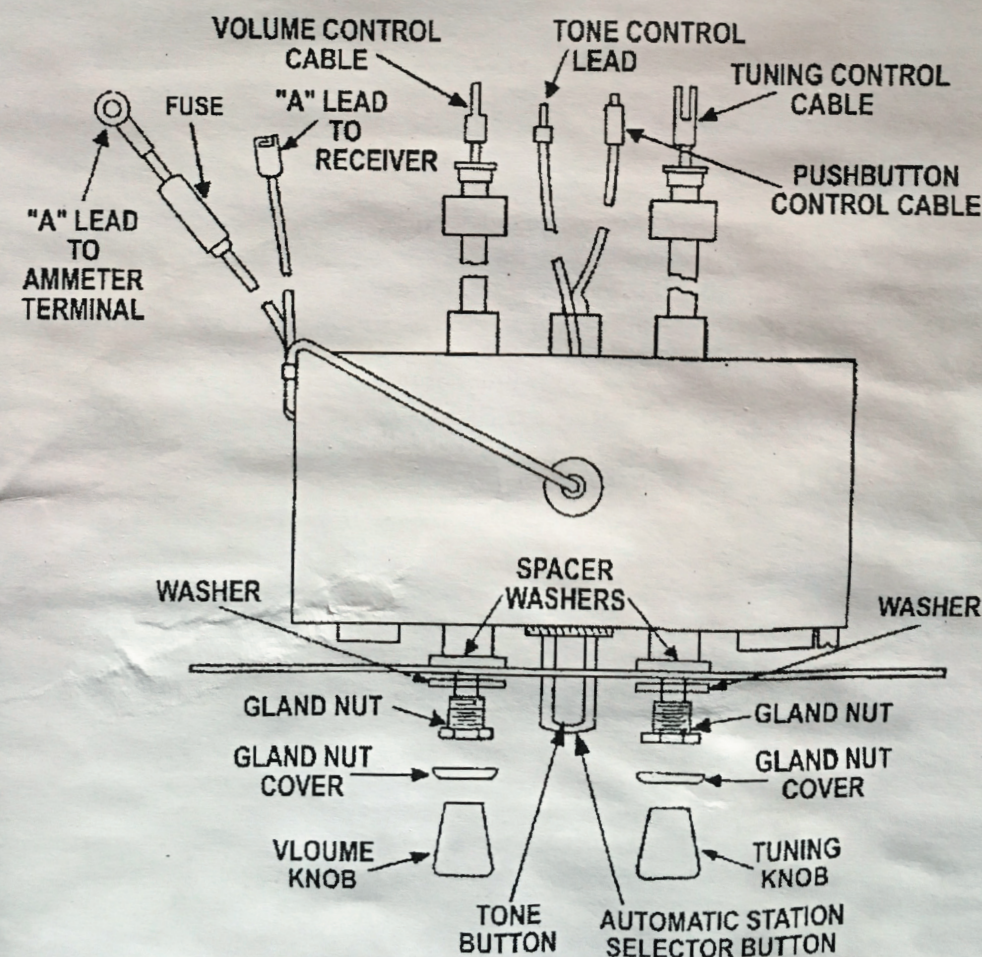
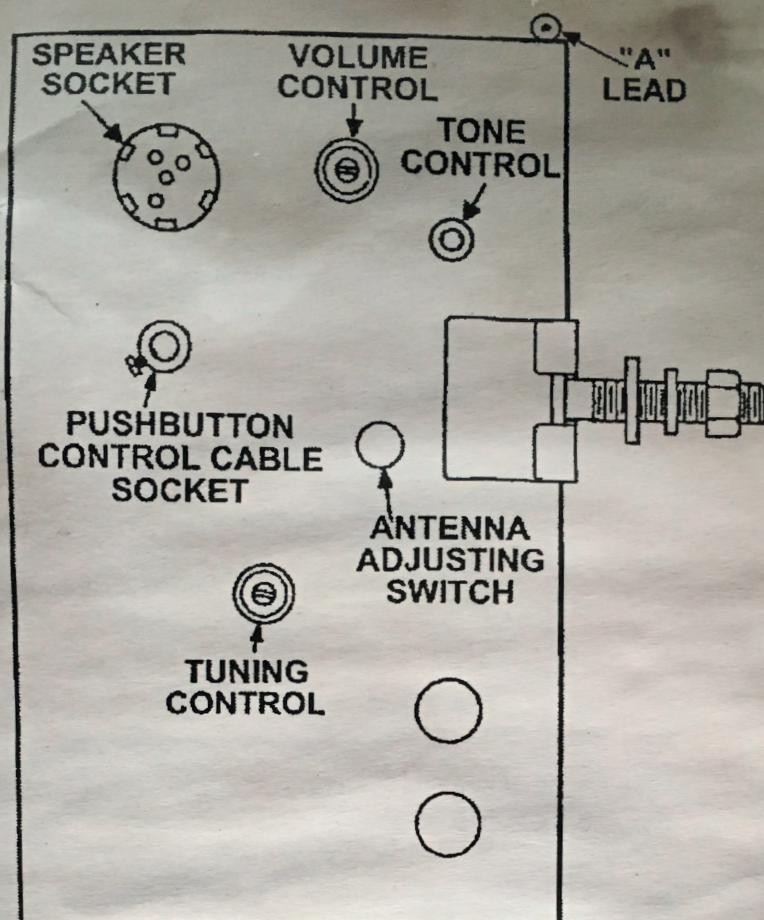

FIG. 2
FIG. 3
Bolt the control head and face plate to instrument panel using the two thin washers, included with this radio, between the gland nuts and the control shaft bushings (see Fig. 2). The gland nuts screw into the control shaft bushings and hold the control head and face plate in position.
The tenite face plate used in these models must be slipped into position from the side. In order to do this push the control head back until the shafts do not project out of the holes in the panel, then slide the face plate into position from the glove compartment side. Bolt the control head and face plate to the instrument panel using the two thick washers, included with this radio, between the gland nuts and the control shaft bushing (see Fig. 2). The gland nuts screw into the control shaft bushings and hold the control head and face plate in position.
11. Place the gland nut covers over the gland nuts (see Fig. 2) and then slide the two control knobs on the control shafts.
1. Insert the volume control cable in its proper coupling on the receiver case (see Fig. 3). As you do this, turn the volume (**LEFT**) knob to be sure the shaft engages, then tighten the shaft coupling collar at the receiver case.
2. Turn the tuning (**RIGHT**) knob, on the control head, clockwise until you reach appreciable resistance. Then turn this knob counter-clockwise one whole turn. Insert a small screwdriver in the coupling hole for the tuning shaft on the receiver case. Turn the slotted shaft in the tuning shaft bushing *clockwise* until you reach a stop. Then insert the flexible tuning control cable (see Fig. 2) into its coupling in the side of the receiver case (see Fig. 3). Turn the knob slightly clockwise until the shaft end engages and then tighten the shaft coupling collar at the receiver case.
3. Insert the flexible push button control cable into its socket on the receiver case (see Fig. 3). Before tightening the set screw on this socket, **PUSH**
7. Push the tone control plug into its proper socket on the side of the receiver case (see Fig. 3).
5. Connect the speaker cable plug to the socket on the end of the receiver case (see Fig. 3).